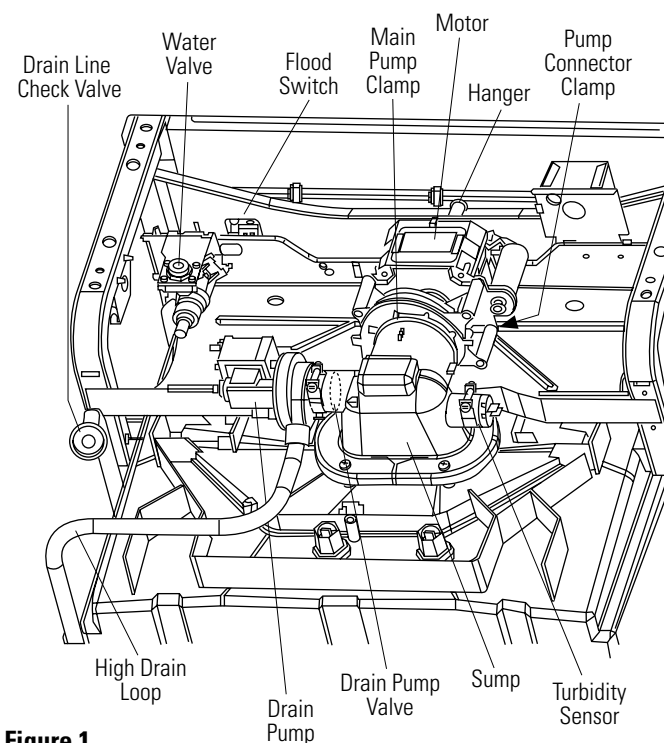
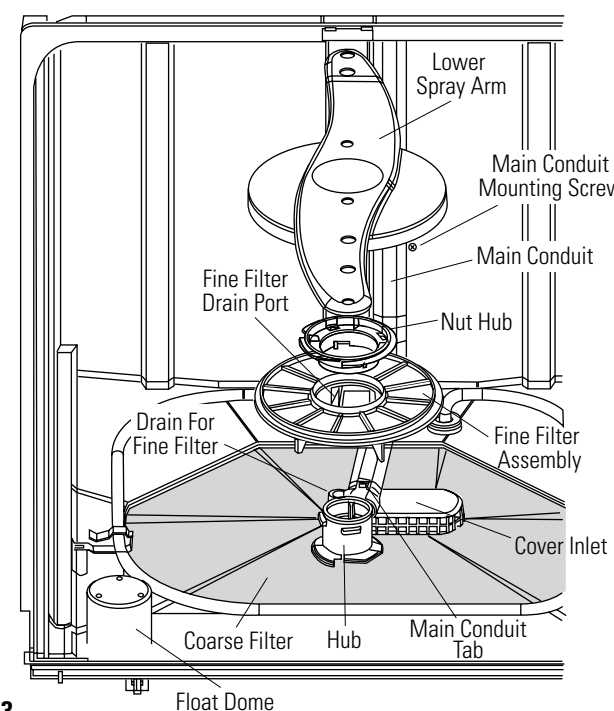

Figure 1
Figure 3
2. Check cover inlet (Figure 3) in the bottom of the tub. Make sure that it is clear of food particles.
5. Remove lower spray arm (Figure 3).
6. Remove main conduit mounting screw (Figure 3).
7. Lift main conduit tab, pull and rotate main conduit out of hub (Figure 3).
8. Remove the cover inlet, check sump and drain outlet (Figure 3). It may be blocked by a toothpick or other object.
9. Check drain pump valve (Figure 1) for correct operation. Water should flow only from the pump to the high drain loop.
10. Drain line check valve (Figure 1) must pass water in the drain line direction only.
2. On inside of dishwasher, remove the cover inlet (Figure 3) and reach down into the sump (Figure 1). Check for blockages such as bone, wire ties, etc. If it contains debris, clean thoroughly. If motor shaft cannot be turned, remove mechanism.
1. Remove cover inlet (Figure 3). With syringe, remove all water from sump (Figure 3).
2. Loosen main pump clamp and pump connector clamp (Figure 1).
3. Remove hanger that holds motor to tub frame (Figure 1).
#### To Remove Lower Arm and Fine Filter Assembly (Figure 3):